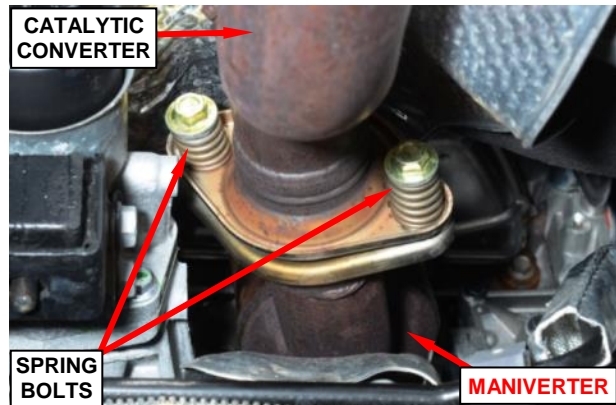

Figure 31 – Catalytic Converter Bolts
97. **For 4WD vehicles only;** Remove and discard the two spring bolts securing the catalytic converter to the exhaust **maniverter** (Figure 31).